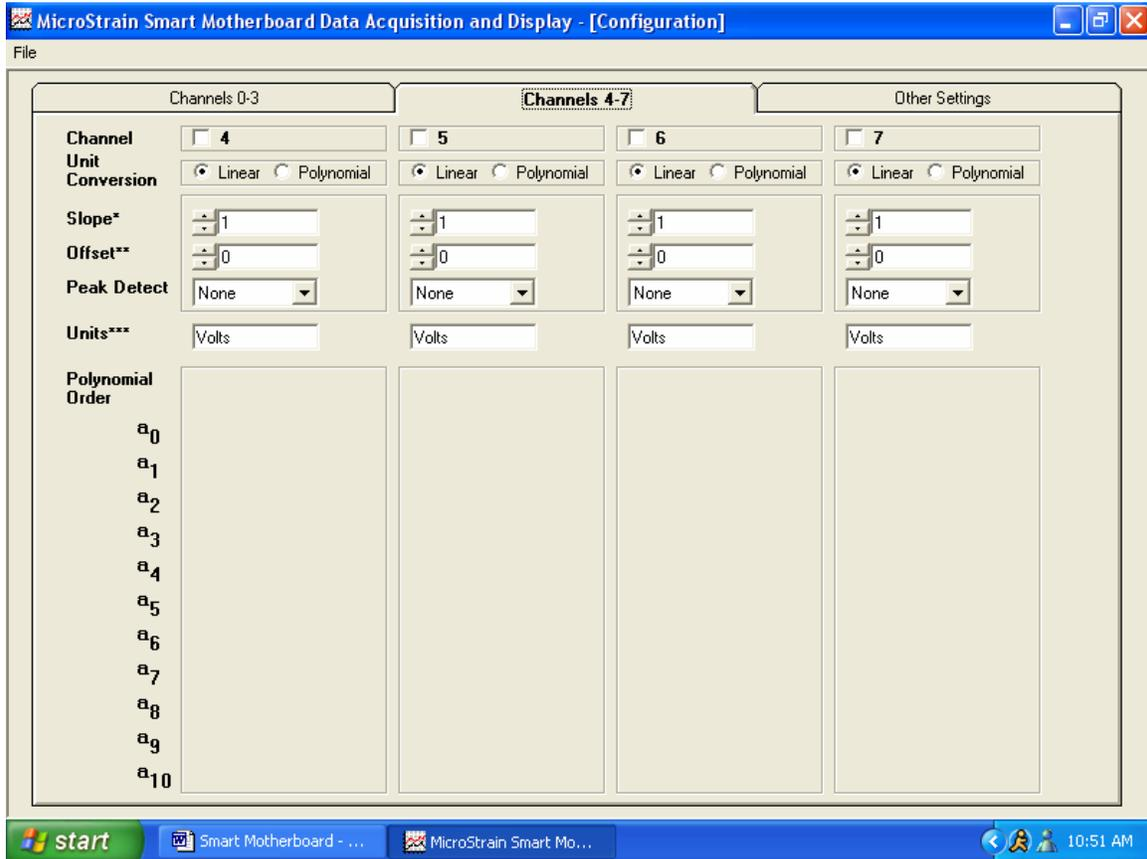

Figure 4.
- Click the tab entitled ‘Channels 4-7’ and that tabs’ contents will become visible as shown in figure 4.